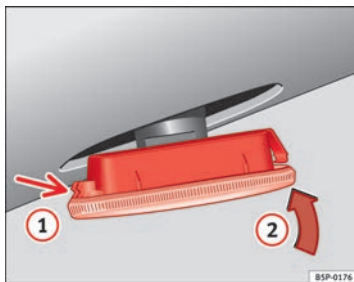

Fig. 238 Side turn signal
- First place the turn signal in the opening in the bodywork, fixing the tabs ⇒ Fig. 238, arrow ①.
- Insert the bulb as shown by the arrow ② ⇒ Fig. 238.